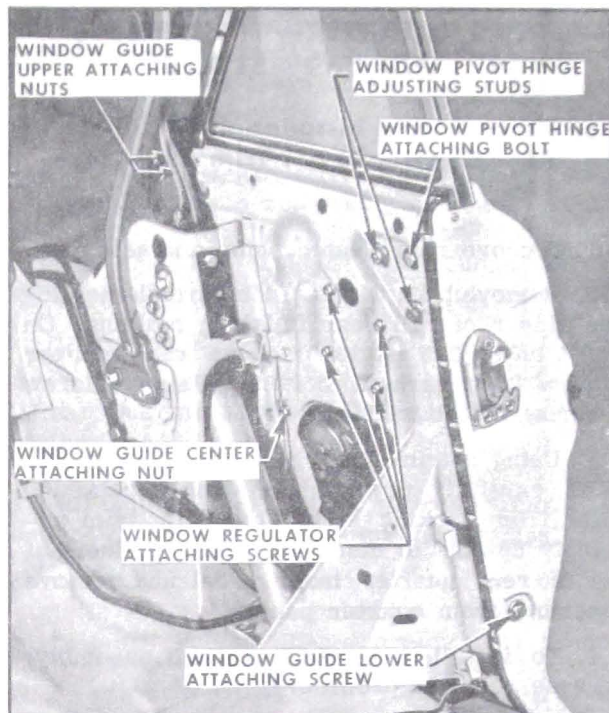

Figure 3-7—Rear Quarter Hardware—"67" Styles
3. Remove window pivot bolt, shown in Figure 3-7. Disengage window male hinge from female hinge plate; then raise window to disconnect window lower sash channel cam from roller on window regulator lift arm and remove window.
1. To adjust the limit of the rear quarter window up travel, loosen the window guide upper attaching screws (Figure 3-7); then adjust upper stop to desired position and tighten guide attaching screws.
a. Up or down or fore or aft window adjustment: Loosen pivot bolt and both adjusting stud nuts (Figure 3-7). Position window as required; then tighten pivot bolt and stud nuts.
b. In or out adjustment of top of window: Loosen lower adjusting stud nuts and slightly loosen rear stud nut. Adjust lower stud in or out, as required; then tighten both stud nuts (Figure 3-7).
c. In or out adjustment of rear of window: Loosen pivot hinge rear adjusting stud nut and loosen slightly lower adjusting stud nut. Loosen window guide upper attaching nuts and center stud nut (Figure 3-7). Adjust rear adjusting stud in or out, as required; then tighten both stud nuts. Adjust window guide for proper alignment with window and tighten upper attaching nuts and center stud nut.
5. Remove regulator attaching screws (Figure 3-7). Disengage regulator lift arm roller from window lower sash channel cam and remove regulator assembly through access hole.
3. Remove window guide upper and center attaching nuts and lower attaching screw (Figure 3-7). Disengage window guide from behind window frame and remove guide through large access hole.